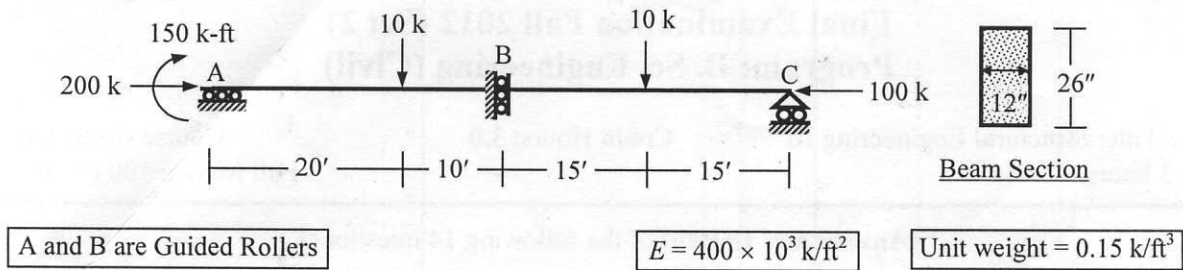

Fig. 4
5. Assemble the stiffness matrix, load vector and calculate the unknown joint deflections and rotations of the beam ABC loaded as shown in Fig. 4, considering both axial and flexural deformations.
6. Use Stiffness Method to calculate the unknown joint deflections and rotations of the beam ABC loaded as shown in Fig. 4, considering flexural deformations only with geometric nonlinearity.
7. Consider flexural deformations only to calculate the natural frequencies of beam ABC shown in Fig. 4, using the consistent-mass matrix, if it made of a material with unit weight = 0.15 k/ft^3 .
8. Use Constant Average Acceleration (CAA) Method to calculate the horizontal deflection at node A of the 5% damped member AB of the beam ABC shown in Fig. 4, if it is subjected to ground acceleration $a_g = 15 \text{ Cos}(600t) \text{ (ft/sec}^2\text{)}$, at time $t = 0.001 \text{ sec}$ after starting from rest (i.e., no initial displacement and velocity), assuming consistent mass of the member [Material with unit weight = 0.15 k/ft^3].
9. For the beam ABC loaded as shown in Fig. 4, use the Energy Method to calculate the required